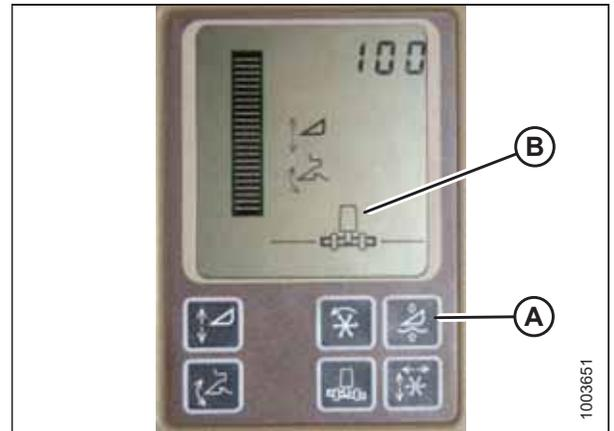

Figure 4.68: John Deere Combine Display
1. Press DIAGNOSTIC button (A) on monitor. DIA appears on the monitor.
2. Press UP button (B) until EO1 appears on monitor, and press ENTER (D). This is header adjustment.
3. Press UP (B) or DOWN (C) button until 128 is displayed on top portion of monitor. This is the reading for the sensor.
4. Press ENTER (D) to select 128 as sensor reading (this will allow you to change display to a three-digit number so it has a 50 in it).
5. Press UP (B) or DOWN (C) button until desired number is displayed, and press CAL (E) button.
6. Press ENTER (D) to save the changes. The height is now set.
Do **NOT** use active header float function (A) in combination with MacDon auto header height control (AHHC)—the two systems will counteract one another. The header symbol (B) on display should **NOT** have a wavy line under it and should appear exactly as shown on Active Header Control Display in Figure 4.68, page 129.